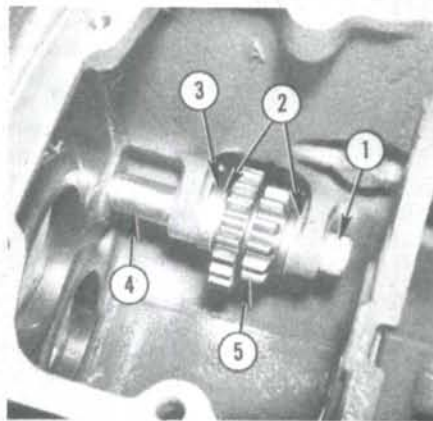

Fig. 194—Use a dummy shaft (1) to hold needle rollers, washers (2), spacer (3) and idler gear (5) in place as idler shaft (4) is removed and installed.
The idler shaft is retained in housing bore by a clip (58) and cap screw. The idler gear contains two rows of loose needle rollers (28 rollers each row) which use the shaft and gear as inner and outer races. Removal and installation is facilitated by using a dummy shaft (1—Fig. 194) to retain rollers in